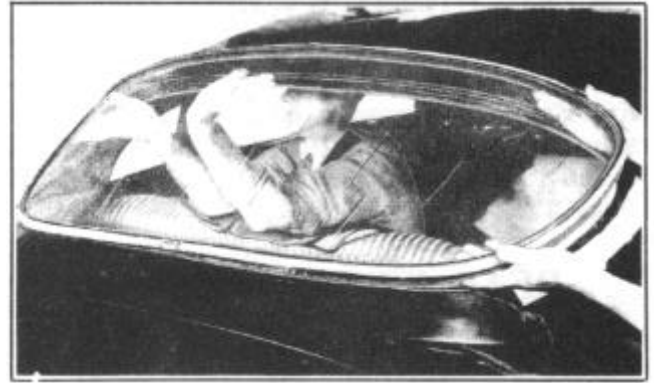

FIGURE 59
4. One man should be inside the car to force the rear window and weatherstrip outward, Figure 59.